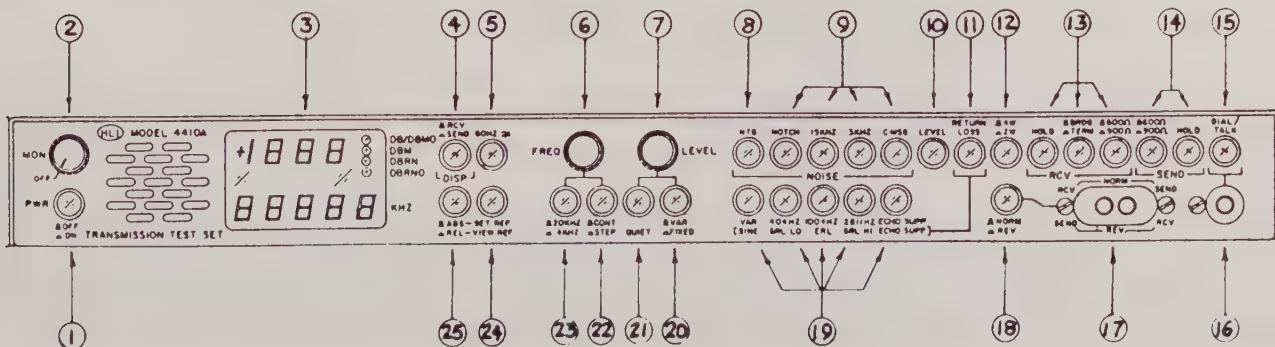
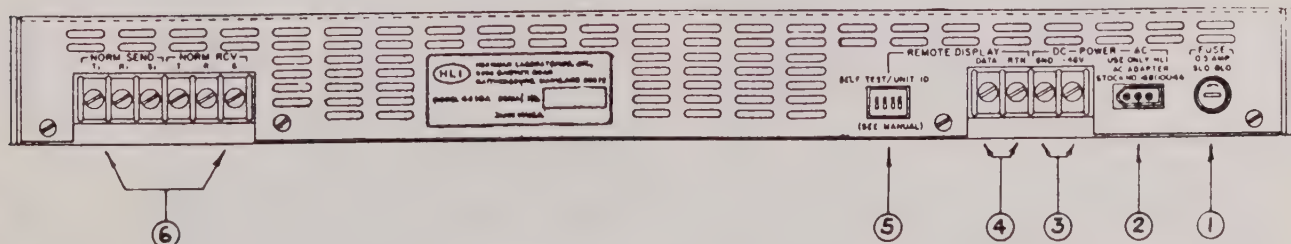

Figure 2. Front Panel Controls, Indicators and Jacks
Figure 3. Rear Panel Connections and Controls
2.01 This section contains the description of all controls, indicators and jacks on the Model 4410A Transmission Test Set. Refer to Figure 2 for the front panel controls, indicators and jacks, and Figure 3 for the rear panel.
3.02 The Model 4410A can be operated from -48V dc office battery or from a 115V ac source. The office battery power leads can be connected directly to the Model 4410A. However, when an ac power source is used, the Model 4410A is connected to the ac source via a wall mounted ac adapter, HLI Stock No. 16B00046. Operating current demand is 0.5 amps or less and the unit is fused with a 0.5 amp, MDL-1/2 type (3AG Slo-blo) fuse. The fuse is accessible from the rear panel. Refer to Figure 3 for the fuse location.
3.03 Connections to the office battery power leads are made via a barrier strip mounted on the rear panel of the Model 4410A. The office ground, or positive lead, connects to the Model 4410A ground terminal labeled GND. This terminal also provides chassis ground for the Model 4410A. The -48V, or negative office power lead, is connected to the terminal labeled -48V on the Model 4410A. Refer to Figure 3 for the location of these connections. The Model 4410A will operate with voltages
3.05 The Model 4410A can be powered from a 115V ac, 60 Hz source, when connected to a wall-mounted ac adapter, HLI Stock No. 16B00046. The ac adapter is supplied as a separate assembly, and is connected to the Model 4410 via a receptacle found on the rear panel. Refer to Figure 3 for the location of this receptacle. The ac adapter is designed to be mated with a three-prong, NEMA 5-15R type ac power receptacle. The Model 4410A must be mounted within 6 feet of the receptacle.